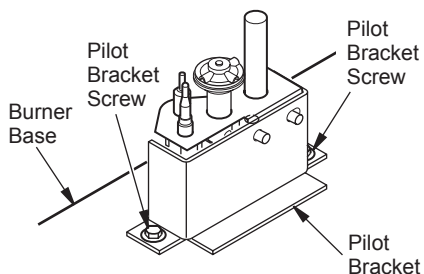

Figure 6 - Loosen Pilot Bracket Screws
4. Remove two back screws from burner (36" models only) and loosen screw on pilot bracket (see Figure 6, page 3).